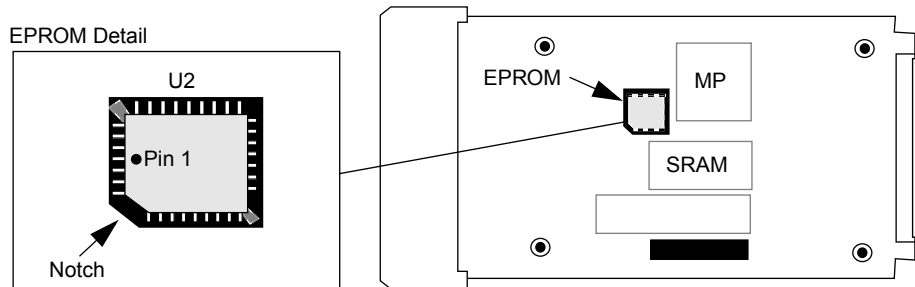

Figure 9.3 *EPROM Location*
6. For 485 communications with the last unit on the serial communications line, move jumper **JU3** to the **B** (or **TERM**) position. Installing the jumper in this position places a 200 ohm impedance on the line. Refer to *Figure 9.3 on page 205*.